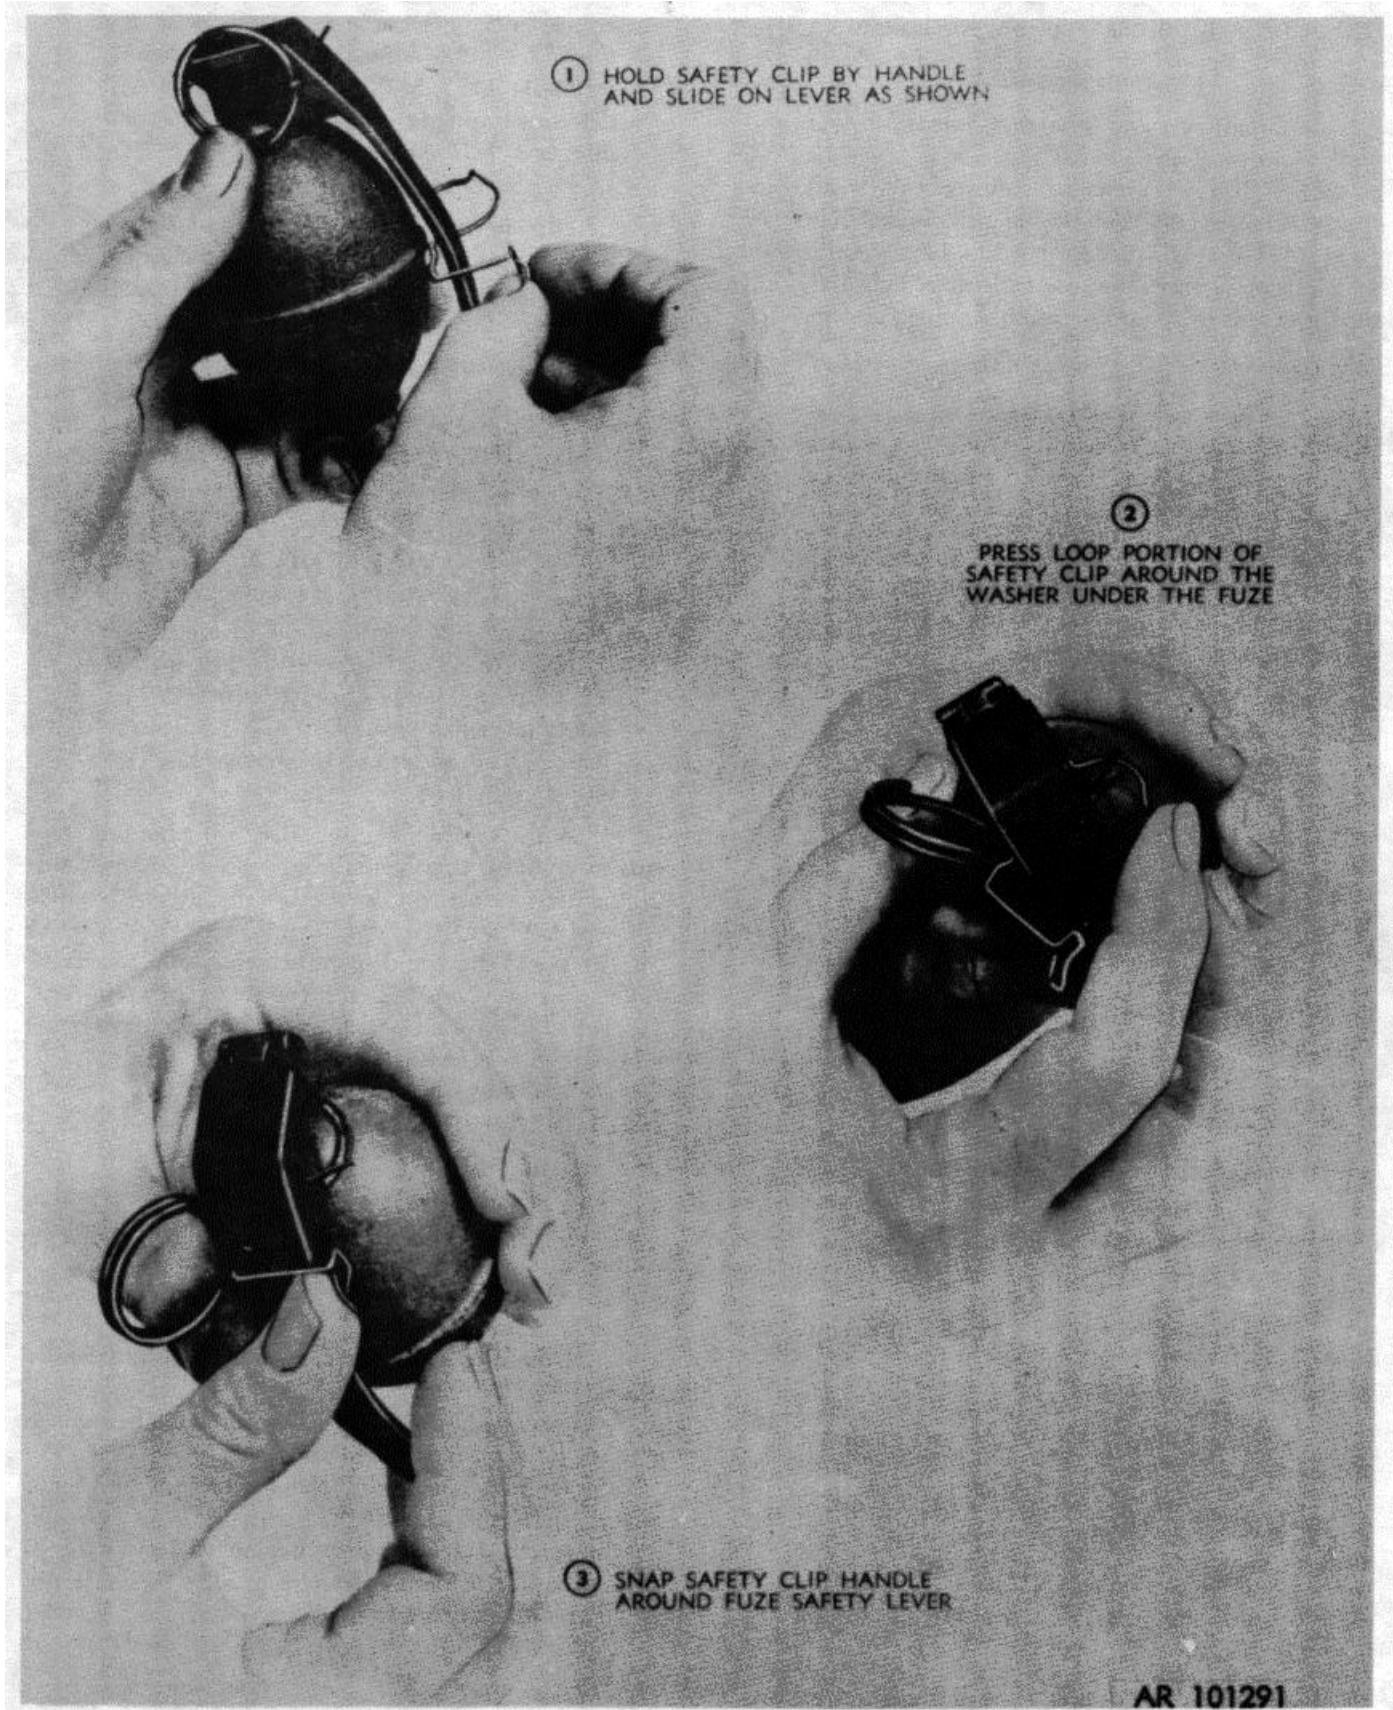

Figure 2-4. Assembly of safety clip to grenade M62.
1. Pick up safety clip by the handle and slide on lever, as show in 1, figure 2-4.
2. Press loop portion around washer under fuze (2, fig. 2-4)
3. Snap safety clip handle around fuze safety lever in 3, figure 2-4.